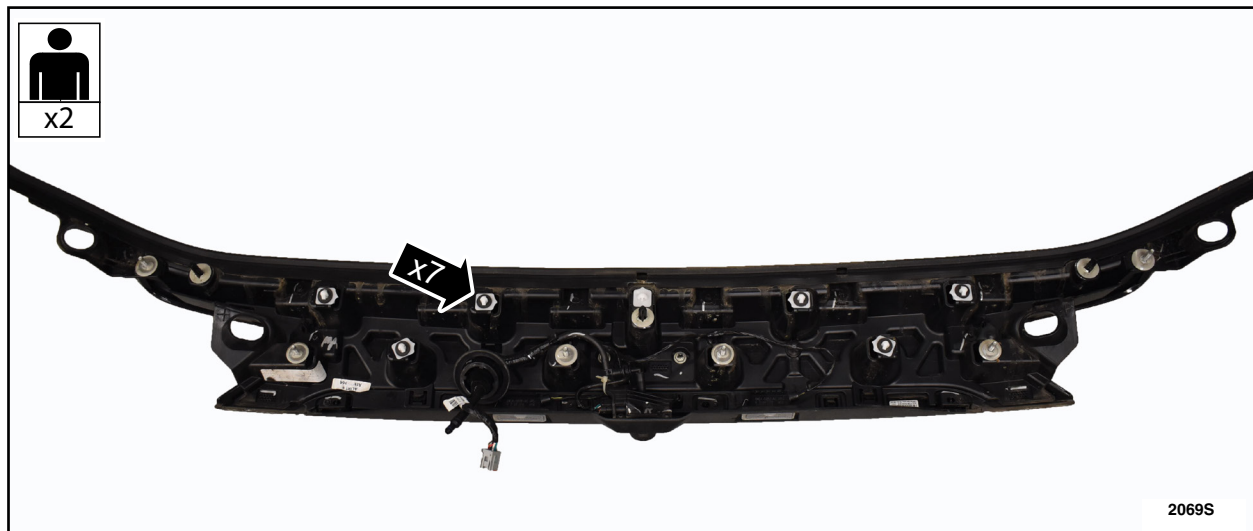

FIGURE 5
5. With an assistant on the opposite side, release the liftgate moulding clips and remove the liftgate moulding. Figure 5 shows the clip locations and is removed for clarity.